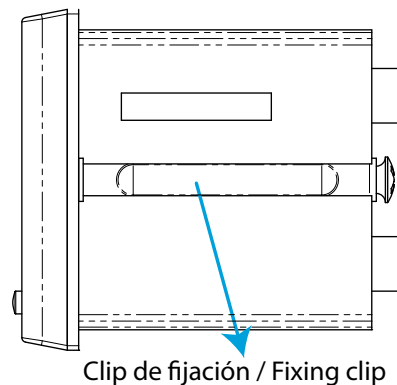

Figure 2: Installation.
2.- Remove the device's fixing clips (**Figure 2**).